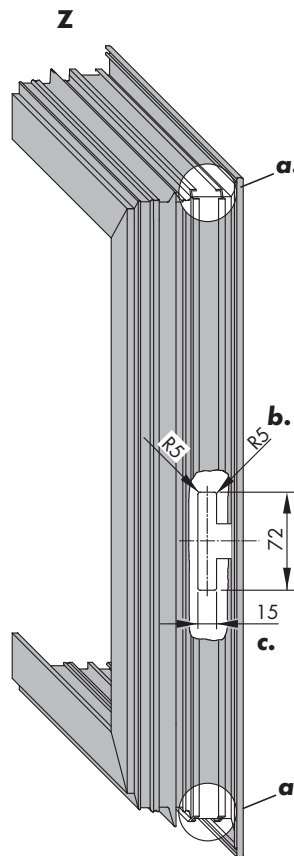

Figure 2
- a. Open operating rod guiding groove (Figure 2).
- c. Processing for rebate heights 8 mm, 9 mm and 10 mm (Figure 2).